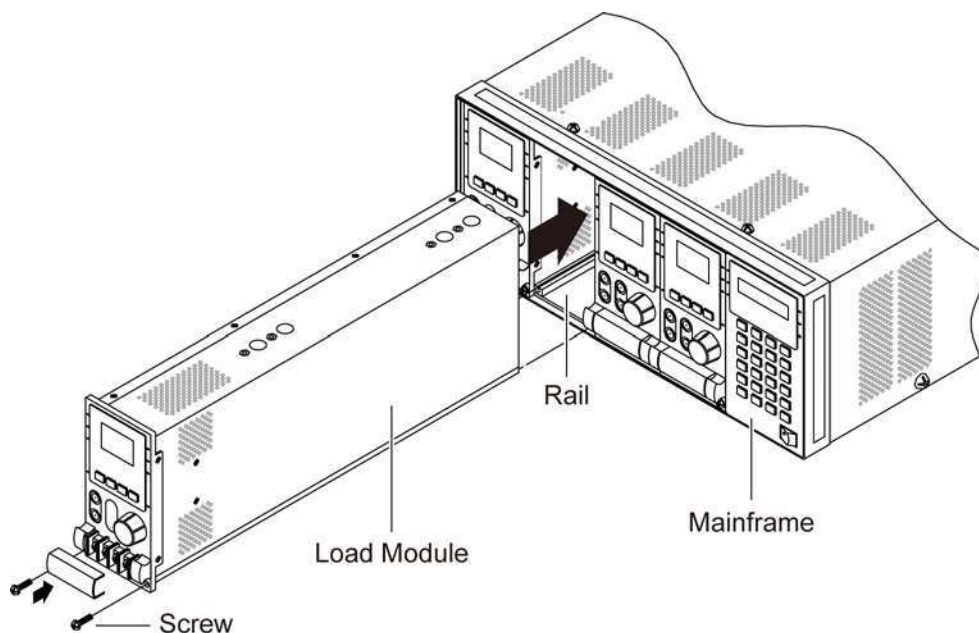

Figure 2-1 Installing Modules in the Electronic Load
3. Start installing the modules in the slot (see Figure 2-1).
5. Lock the module in place with a screwdriver (see Figure 2-1).